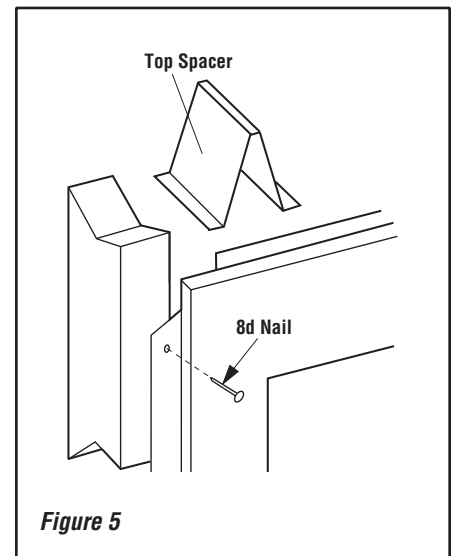

Figure 5
Step 3. Fireplace should be secured to side framing members using the full length nailing tabs at the top and bottom of the fireplace front face. Use 8d nails (see **Figure 5**).
Under no circumstances shall the firebox top spacers be removed or modified (see **Figure 5). The header may be in direct contact with the top spacers but must not be supported by them, notched or altered to fit around them.**